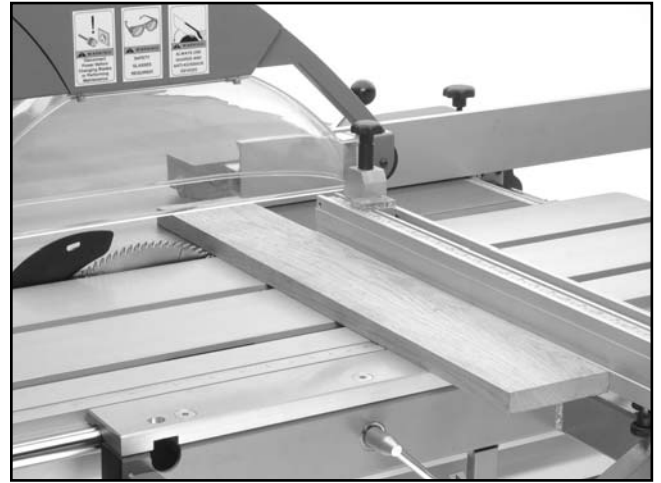

Figure 71. Crosscutting workpieces using the rip fence as a cut-off gauge.
Lastly, this machine has the capability of crosscutting workpieces while using the rip fence as a cut-off gauge (**Figure 71**).
4. Load the workpiece onto the table saw. The set up should look similar to **Figure 71**.